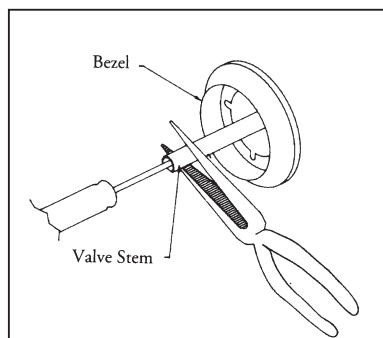

FIG.10 Low Setting Adjustment
4. While holding the valve shaft with pliers, insert a thin, flat tipped screwdriver into the shaft and while viewing the burner adjust to a minimum stable flame (Fig. 10).